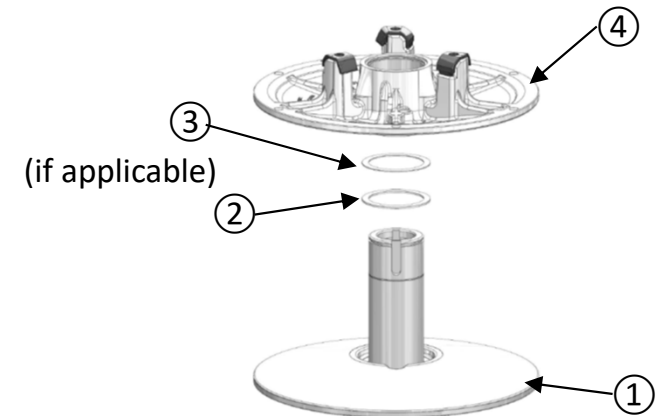

Figure 29
- Put the washer ② and ③ (if applicable) on the fixed sheave ① then put the sliding sheave ④ (figure 29).